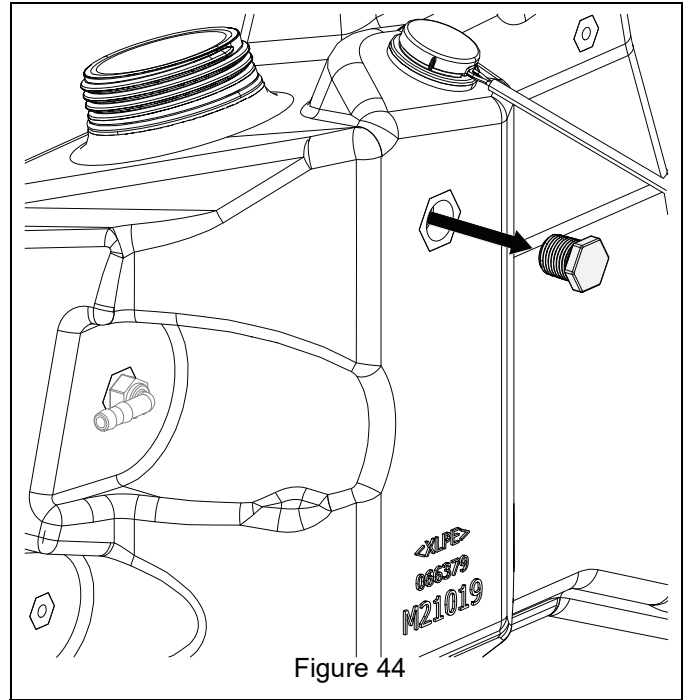

Figure 44
68. Remove and discard temporary plug from top rear of rear brine tank. See Figure 44.